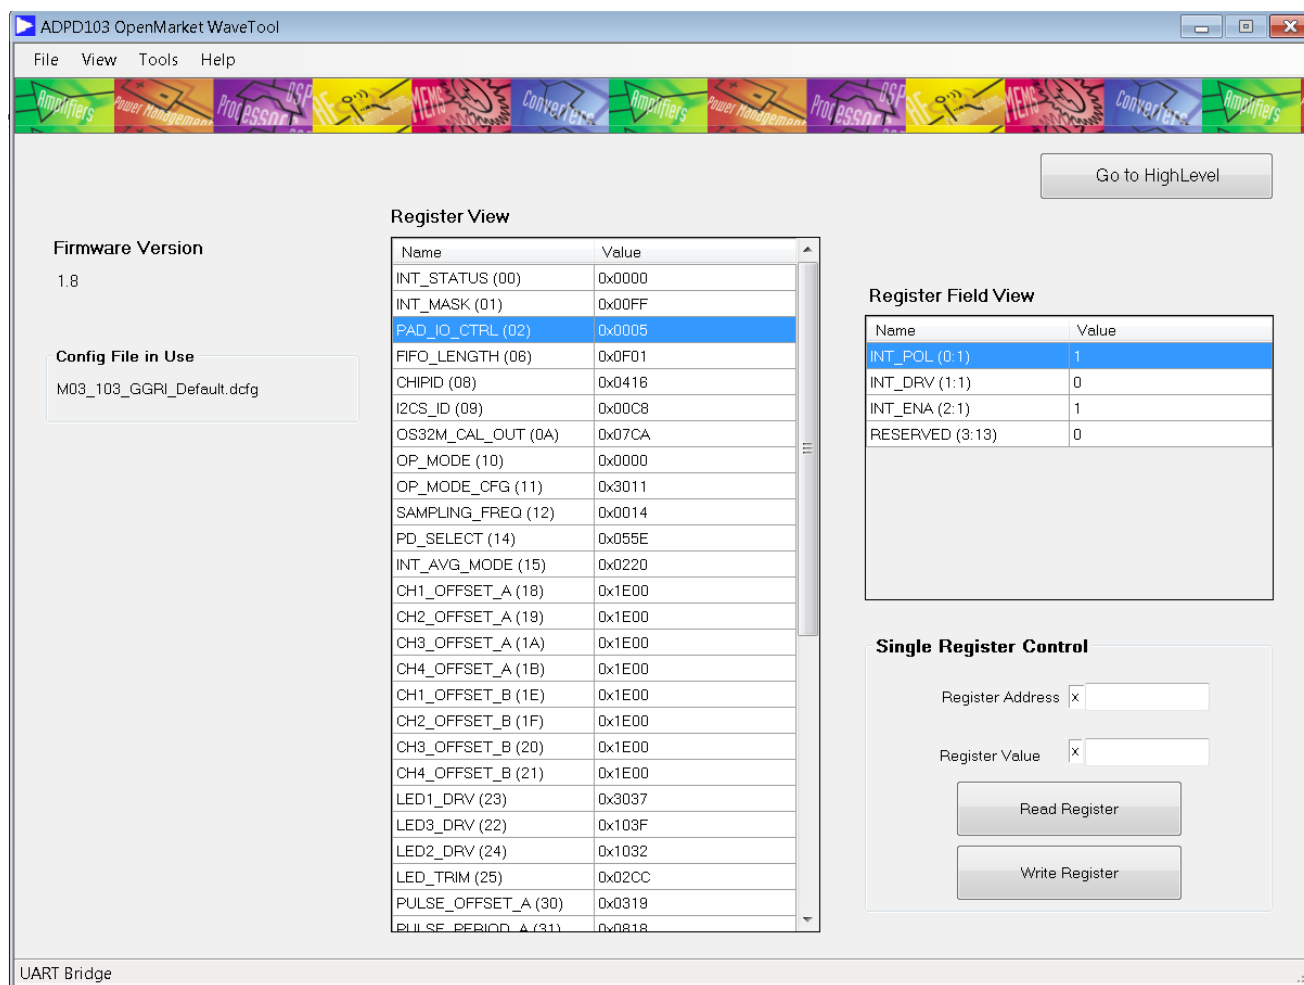

Figure 8. Main Screen Register Level View
Figure 8 shows the ADPD configuration window in **Register View**. The following controls and descriptions are listed in the configuration window:
- **Register Field View** shows how the register is subdivided into fields that determine how each bit field is used. For example, in Figure 8 it shows that the PAD_IO_CTRL Register 0x02 is composed of the bit fields INT_POL, INT_DRV, and INT_ENA to configure the operation of the INT pin.
To view the registers of the device, select **Register View**, shown in Figure 8. The **Name** column is the register name as defined by the register map, followed by (in parentheses) the address in abbreviated hexadecimal format (see Figure 9). The **Value** column shows the register value of the corresponding register in full hexadecimal format.